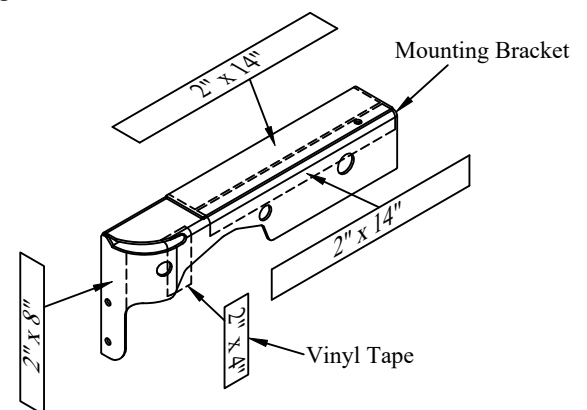

Figure 7: Vinyl tape locations.
2. **Apply** the vinyl tape to the mounting brackets as shown (Figure 7).